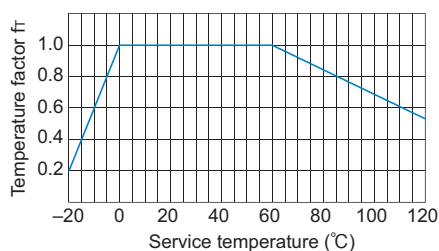

Fig.1 Temperature Factor
If the temperature of the change nut exceeds the normal temperature range, the seizure resistance of the nut and the strength of the material will decrease. Therefore, it is necessary to multiply the dynamic permissible torque (T) and the dynamic permissible thrust (F) by the corresponding temperature factor indicated in Fig. 1.
f_T : Temperature factor (see Fig.1)